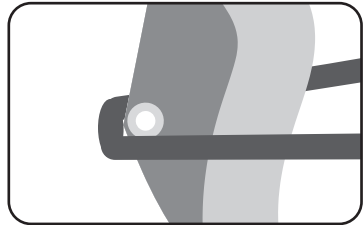

Fig. 7: Outhaul sail to the end of the boom
- d) Finally, outhaul your sail to the end of the boom (Fig. 7).